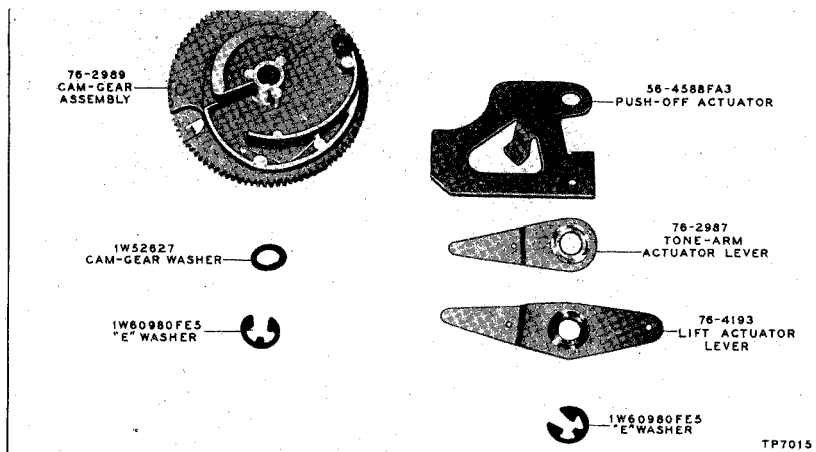

Figure 25. Cam-Gear Assembly and Actuator Levers
d. Slide cam gear off spindle. The cam-gear assembly is shown in figure 25.
- e. Remove upper actuator lever from stud, and disengage long link, Part No. 56-4606FA3. The actuator-lever assembly is shown in figure 25.